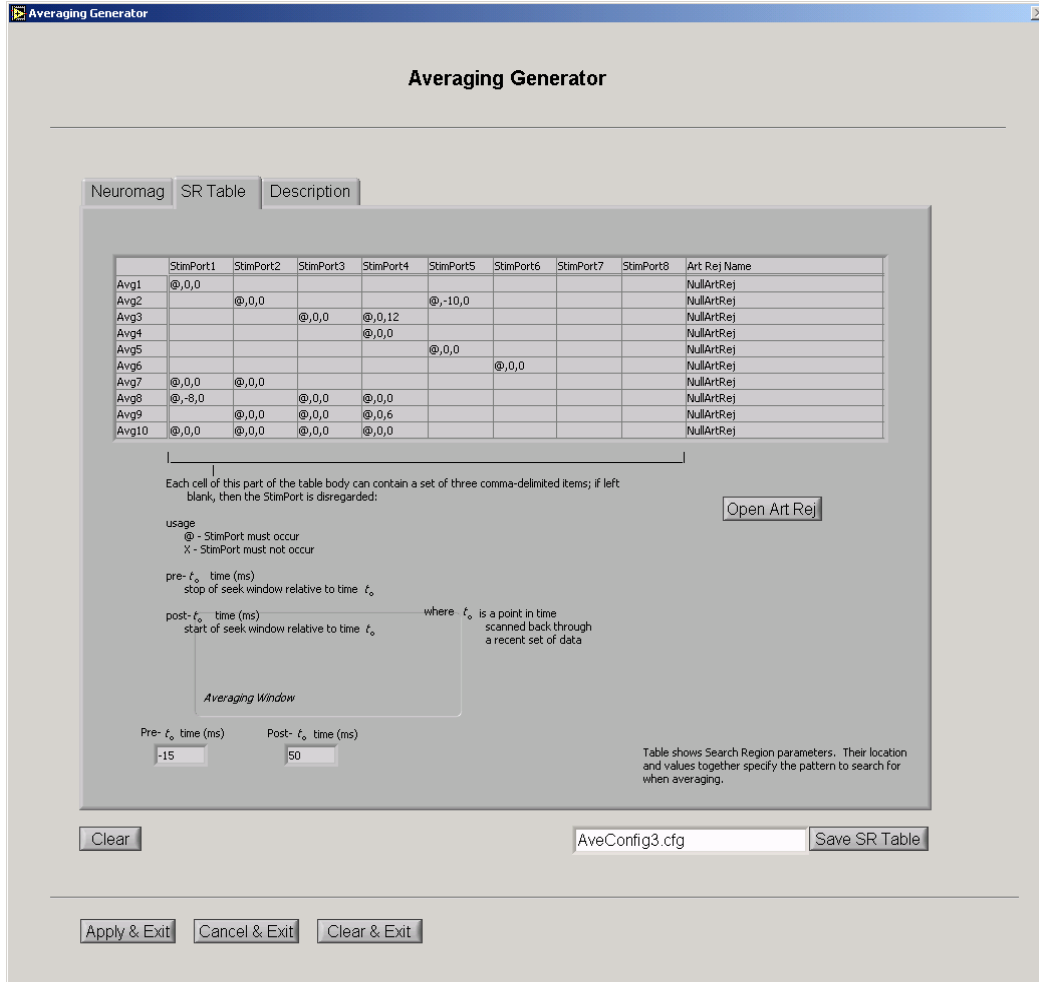

Figure 43 Averaging Generator (SR Table)
The Reference Events specifies searching for a TRUE state for the given trigger channels, and the Required Events specifies searching for an TRUE state for the given trigger signals that must occur within a time window relative to the Reference Event(s). Together, they form a stimulus template, which can be compared against real-time data to search for match occurrences. This stimulus template can be displayed as a Search Region (SR) table, as shown in **Figure 43**.